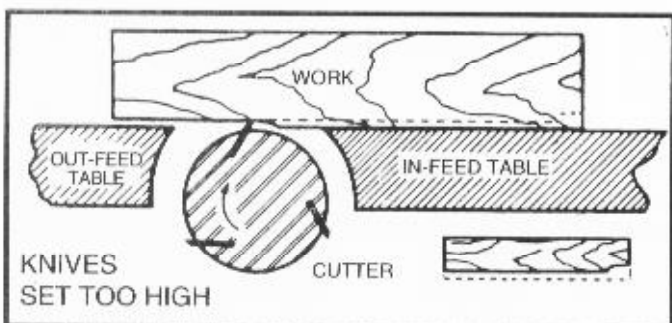

Fig. 23
12. If the knives are set too high, the work will be gouged at the end of the cut, as shown in Fig. 23.